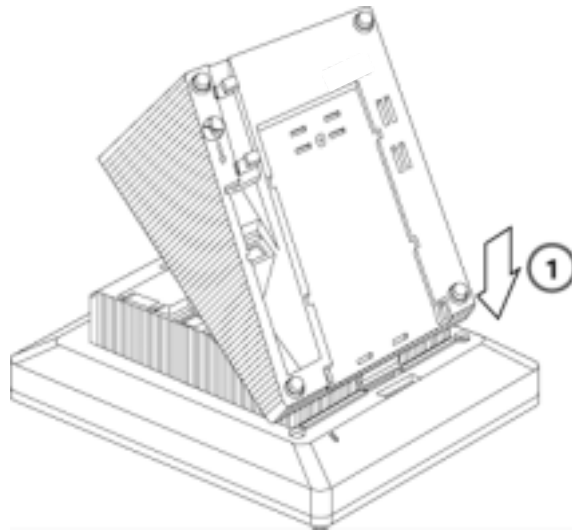

Figure 3-41. Replacing the Deskstand
1. Place the tab on the narrow edge of the deskstand, into the locating slot on the telephone base as shown in item 1 in Figure 3-41.